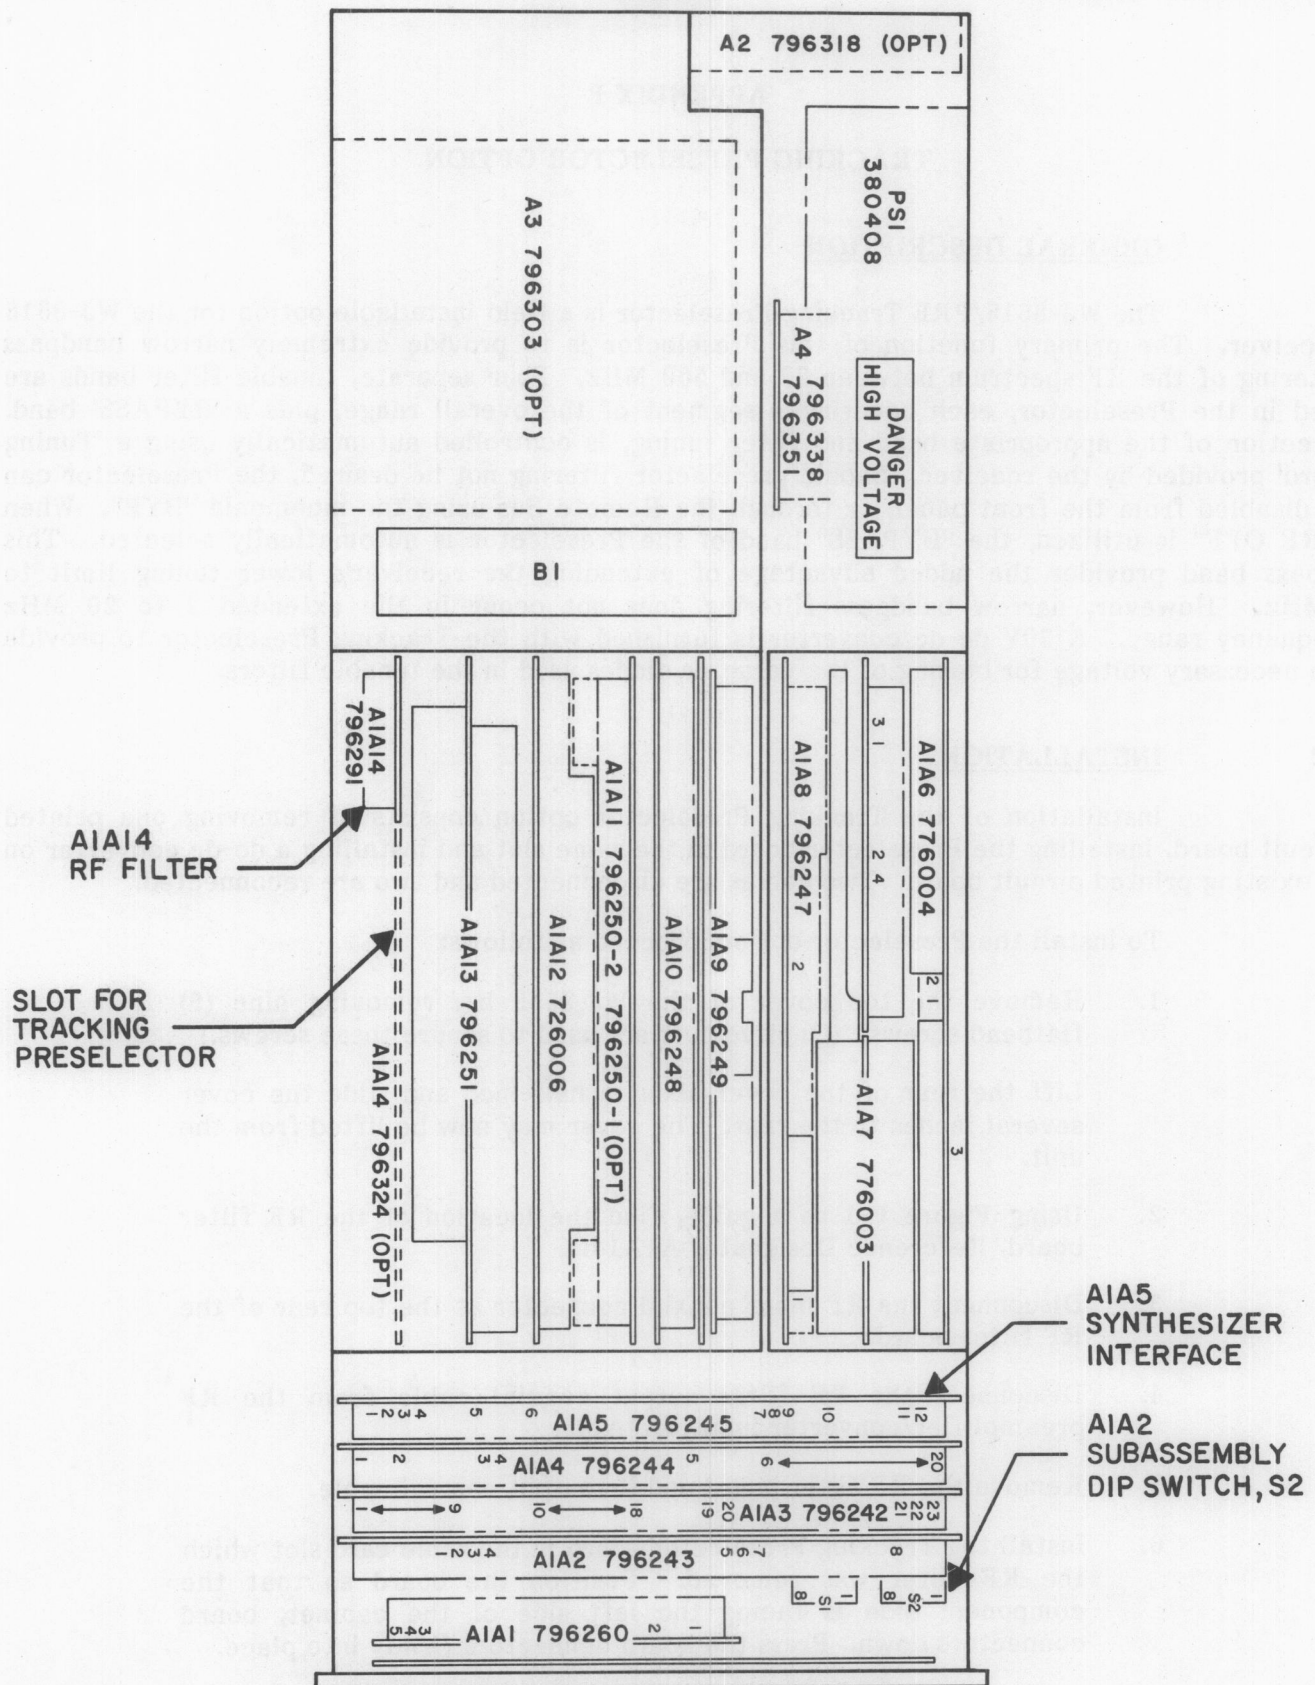

Figure F-1. Location of Printed Circuit Boards, WJ-8615 Receiver, (Top View)
2. Using **Figure F-1** as a guide, find the location of the RF filter board, Reference Designator A1A14.
9. Refer to **Figure F-1** and determine the board location of the Synthesizer Interface board, Reference Designator A1A5, (fourth plug-in circuit board from the front panel).
16. Reinstall the cover and the nine (9) flat-head screws.
17. Locate Dip Switch S-2 (illustrated in **Figure F-1**), located on the A1A2 subassembly. Set the number 8 switch of S-2 (nearest the left edge of the Dip switch) to the 'OPEN' position. This informs the software that the Tracking Preselector option has been installed.